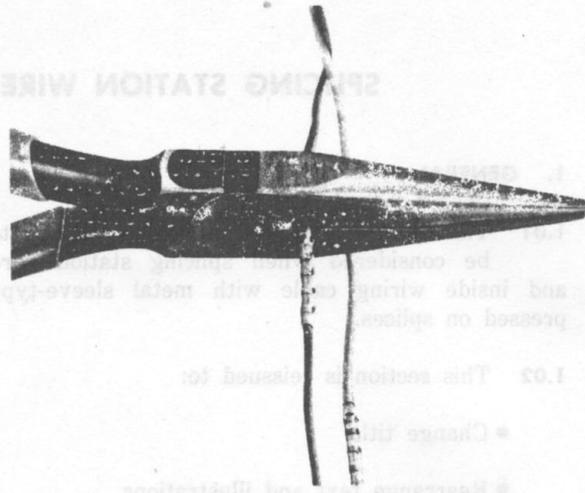
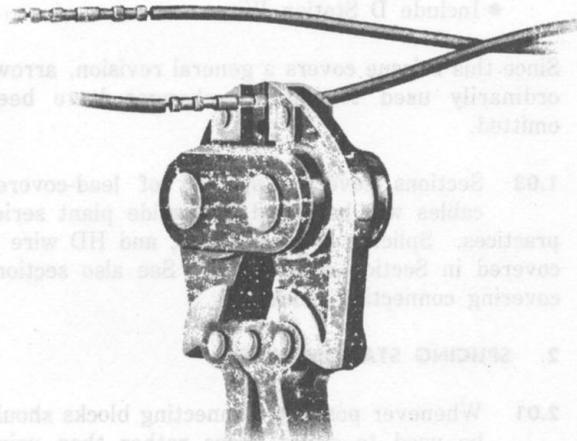

Fig. 2—Pressing Sleeve with C Long-Nose Pliers
Fig. 3—B Sleeve Presser
- (1) Place a brass S-032-025 sleeve on each conductor of one wire and using C Long-Nose Pliers or B Sleeve Presser Tool, make a single press on sleeve near outer end.
- (2) Insert associated conductor in other half of sleeve and make single press on this end.
- (3) Repeat for each conductor of two wires being spliced.
- (4) Finish pressing sleeves using pliers or presser tool. If pliers are used make four presses on each side of sleeve center (Fig. 2). If presser tool is used, make two presses on each side of sleeve center. Close handles of sleeve-presser tool until stops are brought together (Fig. 3).